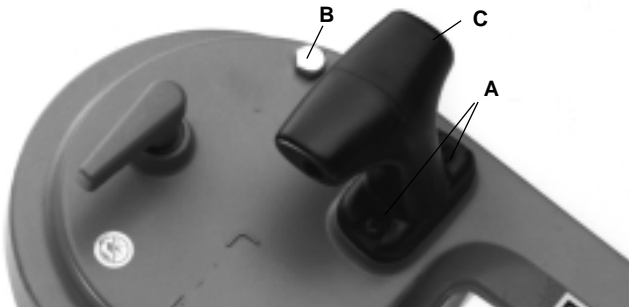

Figure 3
1. Remove two screws (A) and remove knob (C) and screw (B) (Figure 3).
3. Reassemble knob (C), (Figure 3), using two longer mounting screws furnished with 32V Vise.